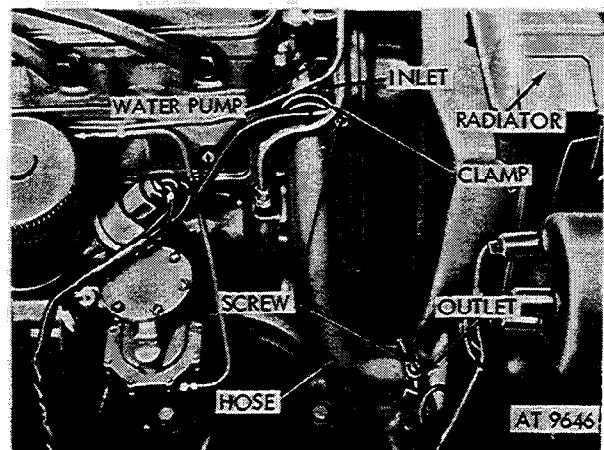

Figure 2-133. Remove lower radiator hose.
(2) Loosen clamps and pull hose from water pump inlet and from radiator outlet (fig. 2-133).
*b. Installation.* Clean hose connections before installing hoses. Install hoses by reversing removal operations. Refer to figure 2-133 and 2-132.
(4) Loosen radiator hose clamp and pull outlet hose from radiator (fig. 2-133).